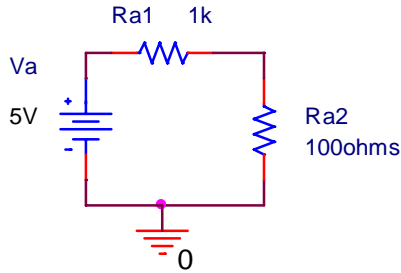

Figure A-4
- Wire the circuit shown in figure A-4 in PSpice.